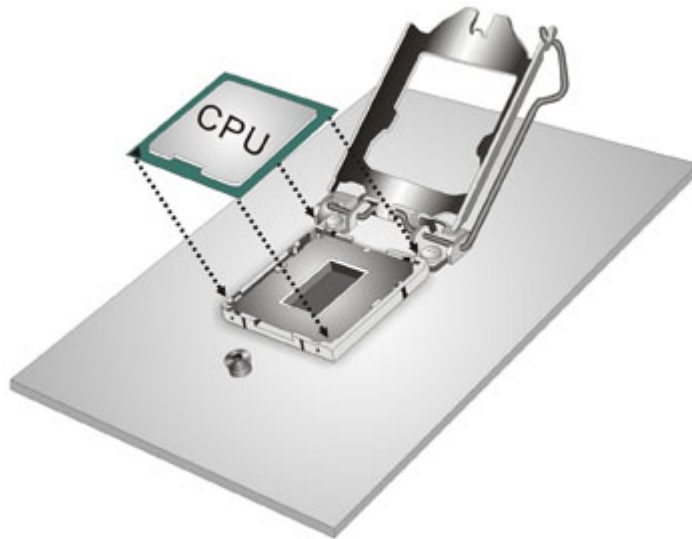

Figure 4-3: Insert the Socket LGA1150 CPU
Step 7: Insert the CPU. Gently insert the CPU into the socket. If the CPU pins are properly aligned, the CPU should slide into the CPU socket smoothly. See **Figure 4-3**.